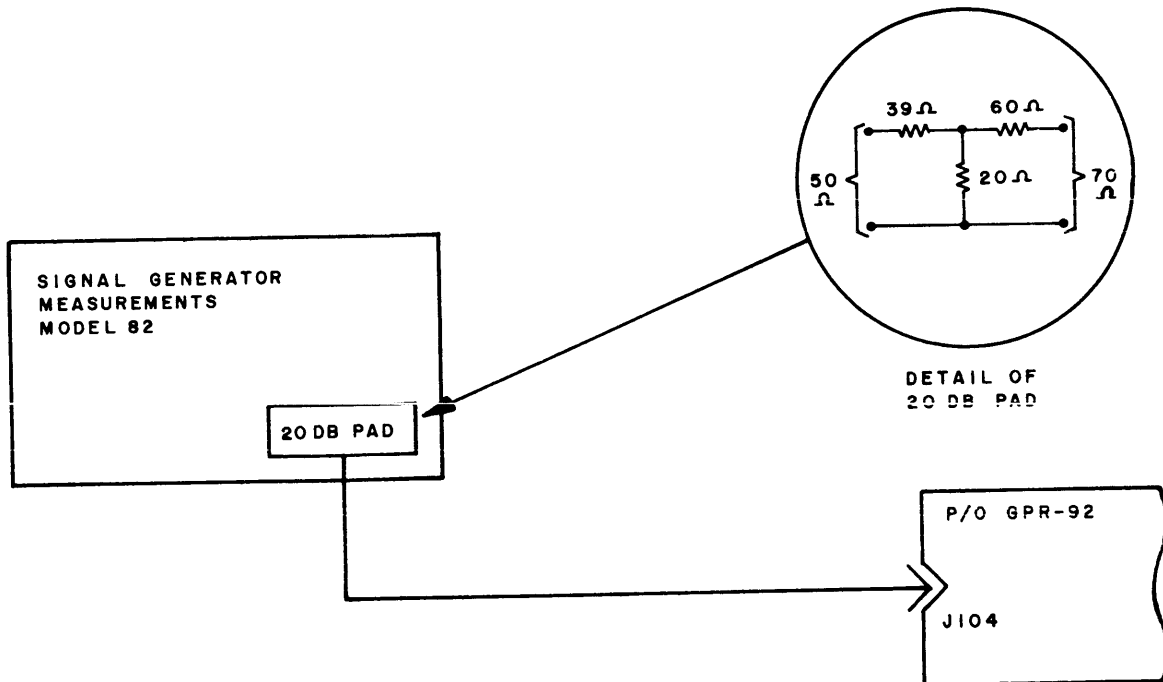

Figure 2-4. Test Setup for Signal Generator
e. POWER CONNECTIONS - Refer to paragraph 2-2 for information regarding DDR-8 power requirements and ensure that the power source is satisfactory. Connect plugs of Bridging Speaker Panel BSP-2, General Purpose Receivers GPR-92 No. 1 and GPR-92 No. 2, Sideband Selectors SBS-1 No. 1 and SBS-1 No. 2, Diversity Voice Combiner DVC-1, and the blower assembly to the receptacles on a-c power strip A-3205 (refer to figure 2-4). Connect plug of Variable Frequency Oscillator VOX-5 to the a-c receptacle located at the rear of Power Control Panel DCP-2. Primary power is applied to the DDR-8 by connecting the power source to the a-c receptacle located at the lower left, rear corner of RAK-31A.
- (b) Connect signal generator to jack J104 of GPR-92 as shown in figure 2-4. Tune signal generator for 1 mc output signal modulated 20 per cent with 1 kc; adjust signal generator output level for 10 microvolts.
(b) Connect signal generator to jack J104 of General Purpose Receiver GPR-92 No. 1 as shown in figure 2-4. Tune signal generator for 1 mc unmodulated output signal. Adjust output level
(b) Connect signal generator to GPR-92 No. 1 as shown in figure 2-4. Tune signal generator for 2 mc output signal modulated 20 per cent with 1 kc; adjust signal generator output level for 10 microvolts.